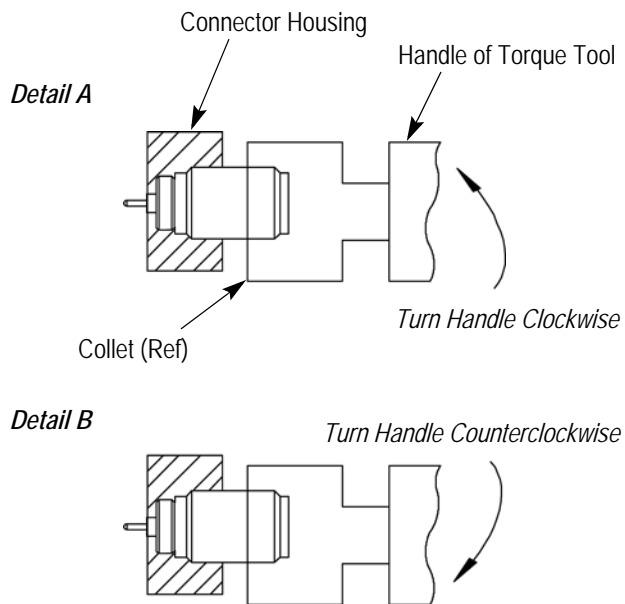

Figure 5
4. Thread the jack into the connector housing by turning the handle of the torque tool clockwise until the handle releases. See Figure 5, Detail A.
5. While holding the collet of the torque tool with the open wrench, turn the handle counter-clockwise, and remove the jack assembly from the torque tool. See Figure 5, Detail B.